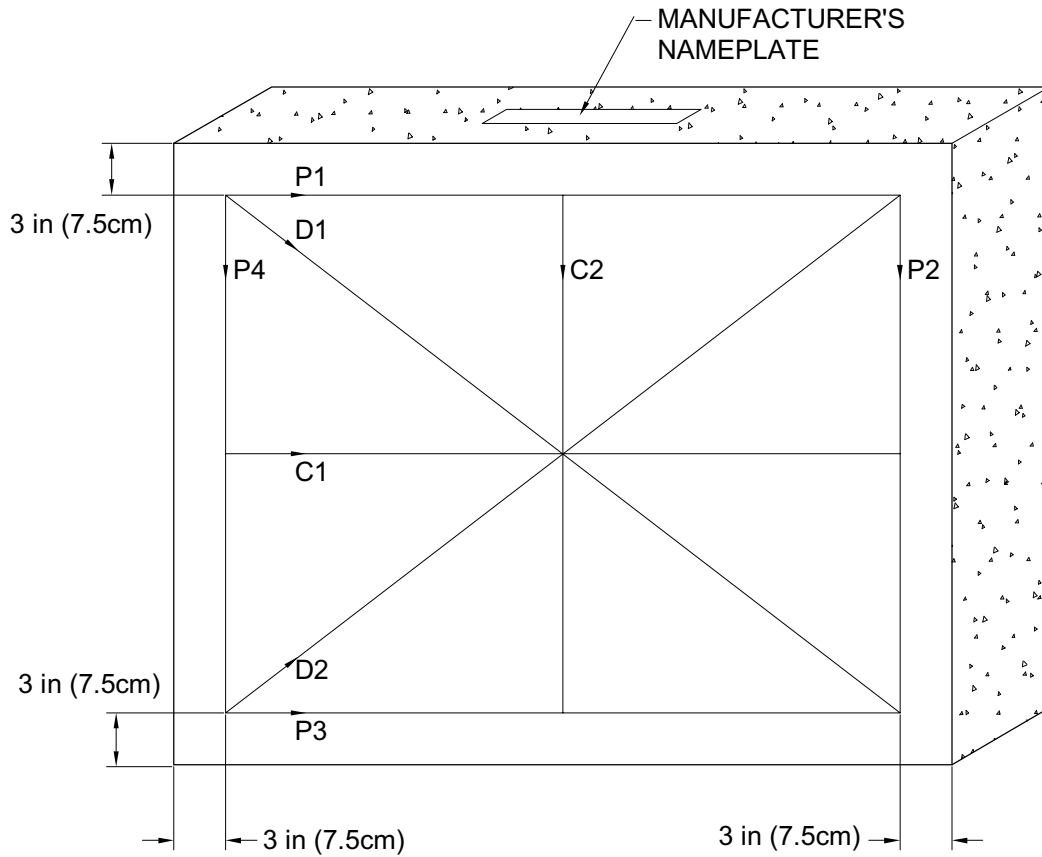

FIG. 9-3 GRID MAP OF SURFACE PLATE
1. To measure flatness of a surface you will have to draw a "grid" on it and make measurements along each edge and diagonal of this grid. A typical grid map is shown in Fig. 9-3.
2. Draw a "map" of the surface plate. The map should be drawn on a sheet of paper with highlights located on the surface plate itself with a lead pencil. Take care not to put markings directly on the grid lines, since the equipment must be free to slide on the granite surface along these lines. The grid system must contain the eight basic lines, as shown in Fig. 9-3.